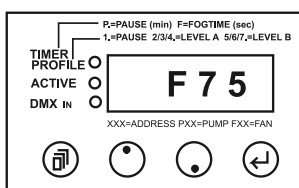

Fig.3: Adjusting the DMX start address
- 1) Press the Mode-button [14] at the control panel until three figures appear on the LED-display [17] (see Fig. 3).